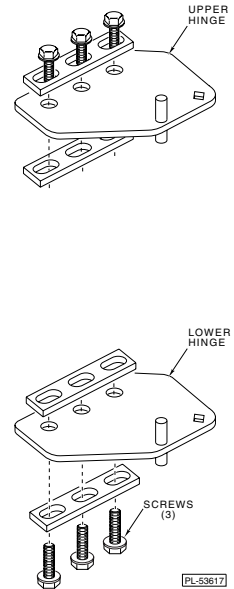

Fig. 3
4. If the hinge mechanism should become uncocked while changing the door, it will be necessary to recock the hinge mechanism. To do this, remove the door from the cabinet and position the door face down on a workbench or table. Using a  $\frac{5}{16}$ " open end or adjustable wrench, turn the hinge mechanism shaft  $135^\circ$  (Fig. 3).